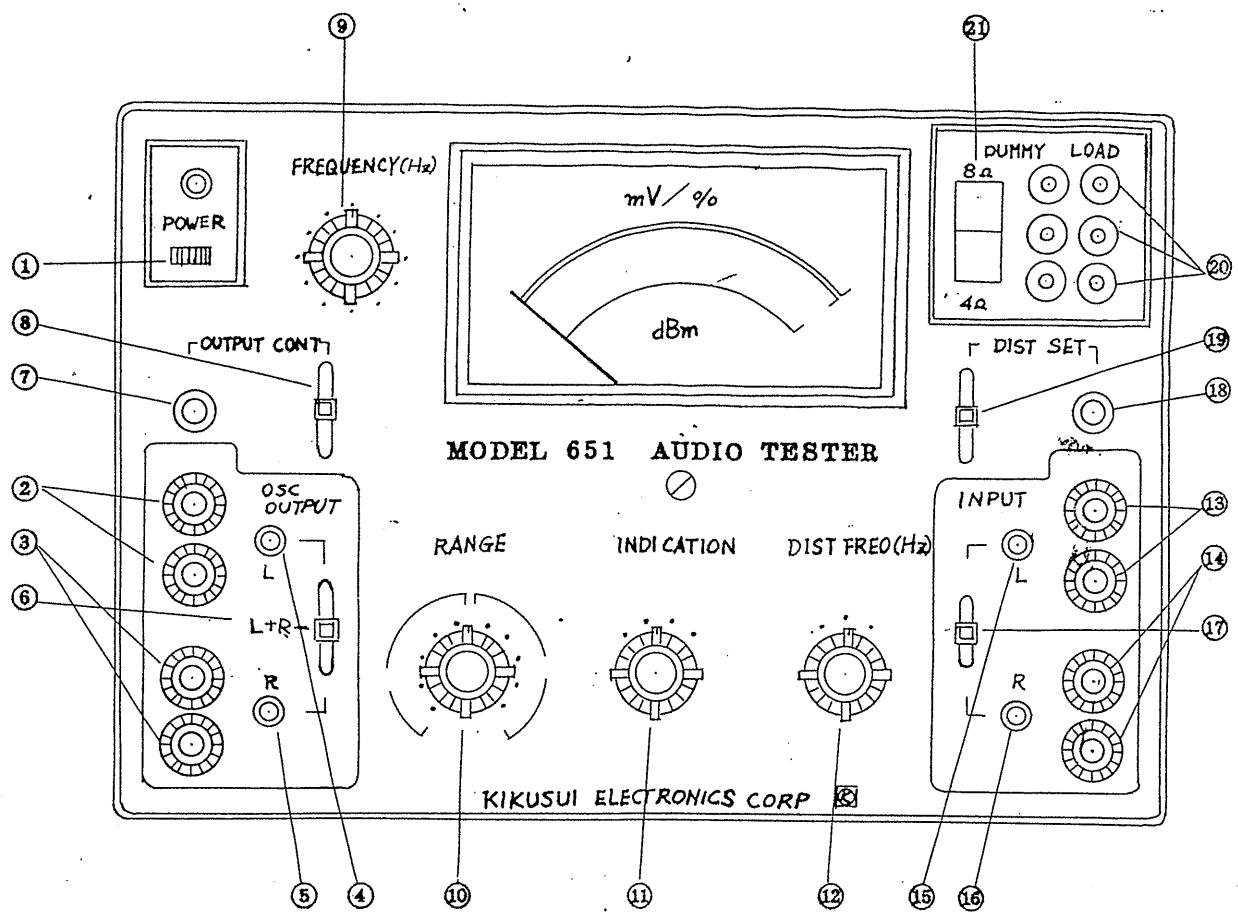

Fig. 3-1 The front panel of Audio Tester
3.1 DESCRIPTION OF THE FRONT PANEL (Refer to Fig. 3-1.)